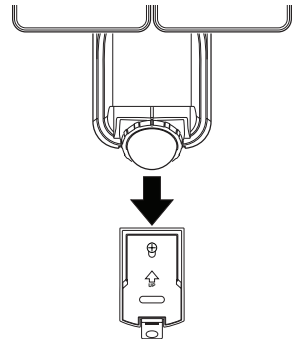

Figure 7
6. Slide the rear of the light fixture down onto the mounting plate until it snaps into place (see Figure 7).